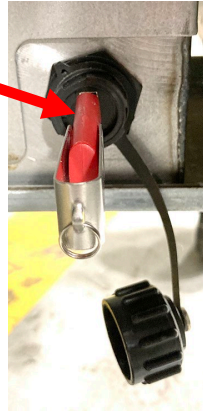

Figure 8
11. Insert USB drive with **CONFIG.INI** files into the KCCM extension port (see Figure 8). Wait about five (5) minutes for files to load.